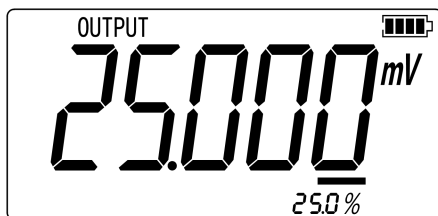

Figure 2.1-5
- Press **▲25%** or **▼25%** to step between 0 and 100% in 25% step increments. The screen will display as shown in Figure 2.1-5.